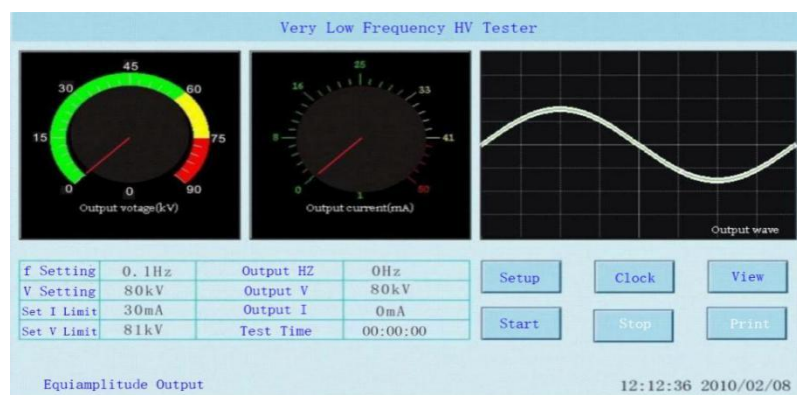

Figure 9 Schematic diagram of Constant amplitude output
3.2.2 The controller raises the voltage to the set value within several cycles, the instrument will output constant amplitude, and the prompt message in the status bar: "Equal amplitude output", as shown in Figure 9: